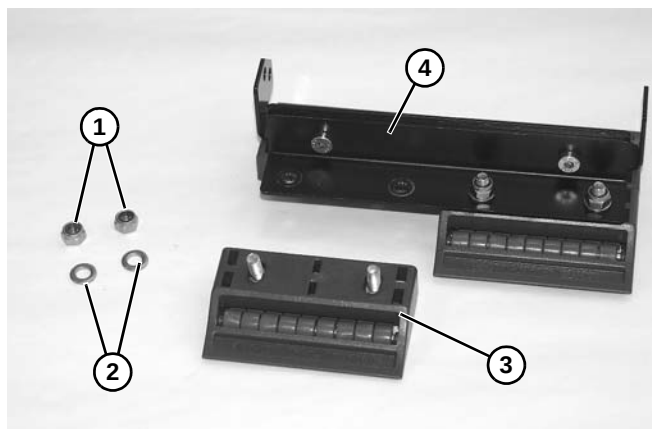

Figure 128
2. Remove nuts (**Figure 128, item 1**), washers (**Figure 128, item 2**), and roller transfer (**Figure 128, item 3**) from support bracket (**Figure 128, item 4**).